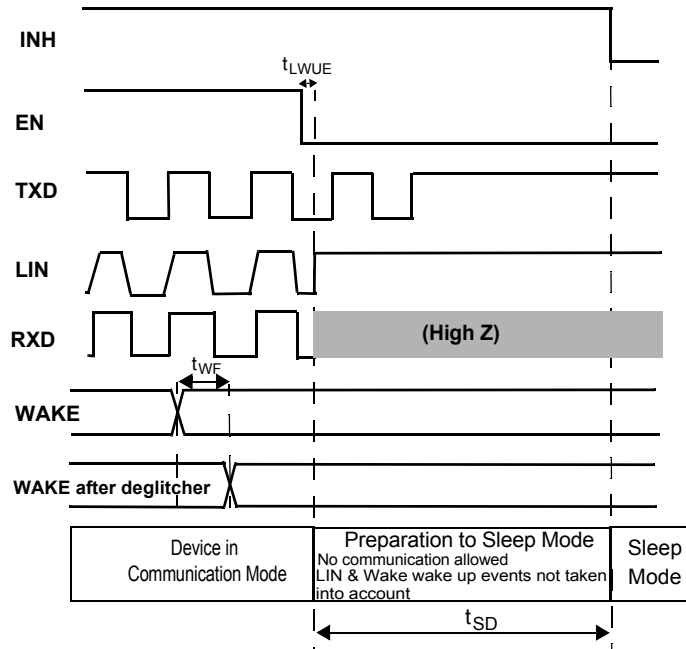

Figure 22. Sleep Mode Sequence for LIN1 or LIN2
- See Figures 22 and 23
EN1 (EN2) input pin controls the operation mode of the interface. If EN1 (EN2) = 1, the interface is in Normal mode, TXD1 (TXD2) to LIN1 (LIN2) after  $t_{\text{FIRS\_DOM}}$  delay and LIN1 (LIN2) to RXD1 (RXD2) paths are both active. EN1 (EN2) pin thresholds are 3.3 V and 5.0 V compatible. RXD1 (RXD2)  $V_{\text{OH}}$  level follows EN1 (EN2) pin high level. One LIN Module enters the Sleep Mode by setting EN1 (EN2) LOW for a delay higher than  $t_{\text{SD}}$  (70  $\mu\text{s}$  typ. value) and if the WAKE1 (WAKE2) pin state doesn't change during this delay. (see Figure 22). Both LIN Modules enter Sleep Mode if EN1 & EN2 LOW.